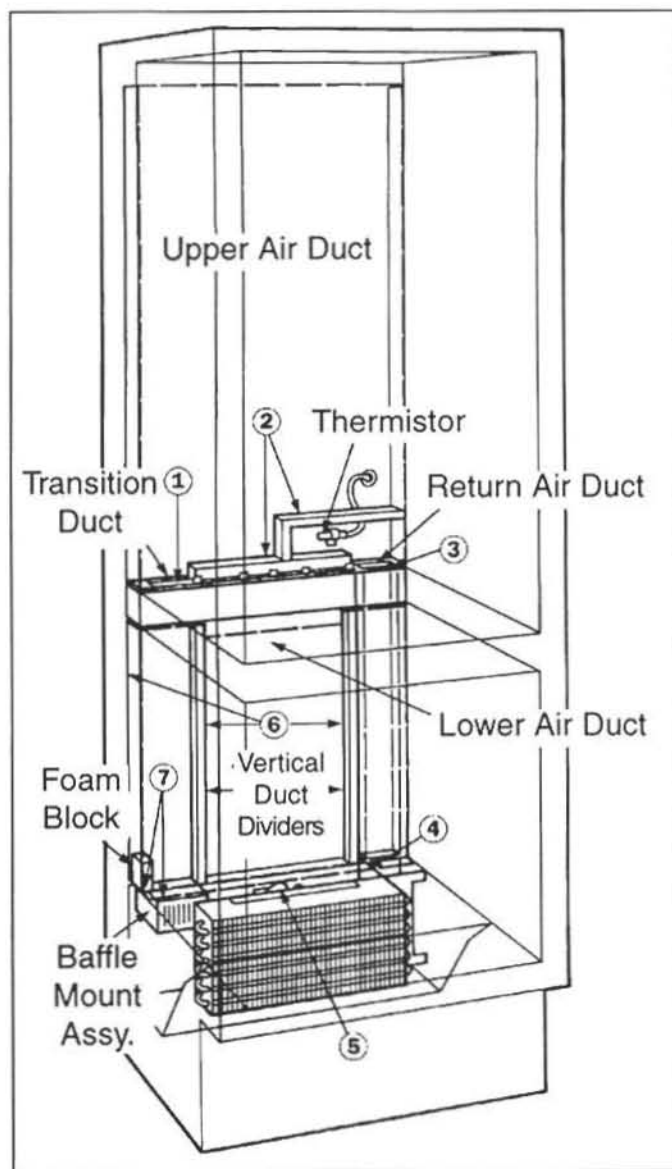

Figure 5-1. 700TC/I Air Seals
- Make sure upper air duct is positioned in slot of transition duct. If not, reposition upper air duct (see #1, Figure 5-1).
- Check that all foam blocks are in position at top of transition duct, and are making a good seal against upper air duct (see #2, Figure 5-1). Reposition foam blocks as required, or order Foam Tape (3/4" x 1/8"), part no. 6230730, and apply to top of blocks.